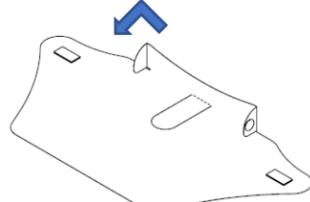

Figure 7
- Next, fold the left side along the blue line, then the right side along the blue line shown in Figures 7 and 8